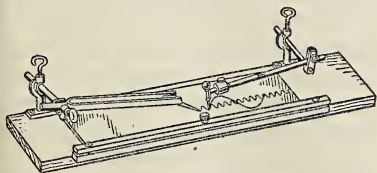

FIG. 419. The vibrograph is used to study sound waves.
1. *The vibrograph.* In this instrument a stylus is fastened to one of the prongs of a tuning fork, the stem of which is held firmly. The fork is then thrown into vibration and a piece of smoked glass is drawn beneath the fork so that the stylus traces its vibrations on the smoked glass. A smoked cylinder may be used in a similar manner to record the vibrations. (See Fig. 419.)